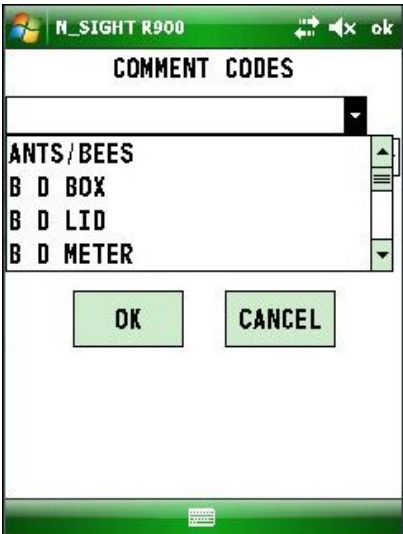

Figure 6.17 Drop-down Selection List of Coded Notes
- 2 Touch the DOWN  arrow to view the list of codes, as illustrated in Figure 6.17.